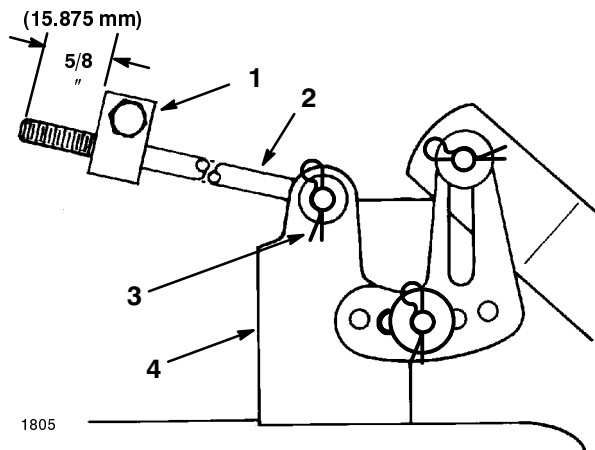

Figure 54
4. Measure the length of the rod extending out the front of the adjusting block on the sides of the chassis (Fig. 54). If the rod length is not $\frac{5}{8}$ " (15.875 mm), remove the hair pin cotter and washer from the end of the rod (Fig. 54), and turn the rod until the $\frac{5}{8}$ " (15.875 mm) dimension is obtained. Then install the end of the rod into the hole in the mower mount and secure in place with washer and hair pin cotter. Repeat this procedure on the opposite side of the mower.